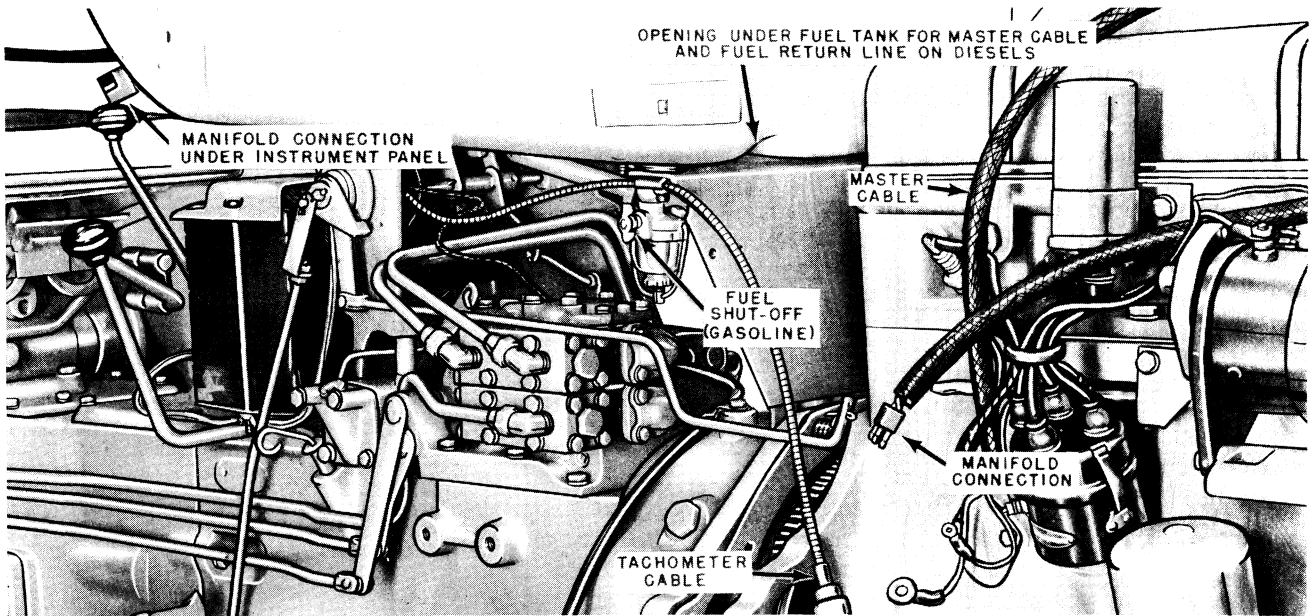
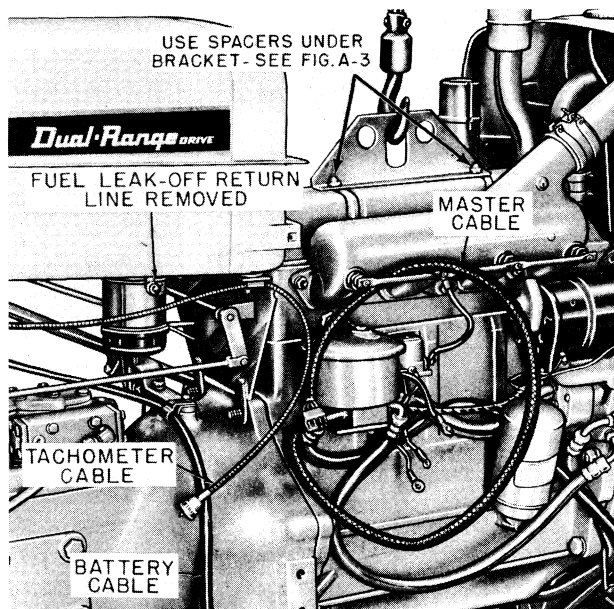

Fig. A-23 Conduit and Master Cable Removed from Under Fuel Tank
Fig. A-24 Preparing Diesel Tractor for Splitting R.H. View
11. Attach control rod or rods between control levers and control valves. The adjustable yoke on each rod must be installed to the rear end or to hand control lever. On Case-O-Matic models be sure to insert washers on the pin which attaches rod to control arm on hydraulic control valves. Fig. A-23. This prevents sidewise motion in the control rod.
5. Remove tachometer cable from generator. Fig. A-23.
6. Remove two nuts securing conduit from bottom of fuel tank, to remove master cable. Fig. A-23.
7. Shut fuel off underneath fuel tank, Fig. A-23 and Fig. A-24.
8. On diesel tractors, remove fuel leak-off return line which attaches to filter base to permit removal of master cable. Fig. A-24. If line is going to be removed from opening under fuel tank, remove the master cable first to provide space for line removal.
9. The master cable is equipped with a manifold type connection, Fig. A-23. Pull master cable apart at
- connection and remove from under the fuel tank. On diesel tractors the fuel return line which goes through the same opening as master cable must be taken loose on both ends to provide sufficient space for end of master cable to be withdrawn through opening at the front end of fuel tank. Fig. A-23.
11. With a 9/16" wrench, remove the three capscrews from starter housing and withdraw starter. On gasoline tractors, remove cotter pin and remove throttle rod and spring as shown. Fig. A-23.